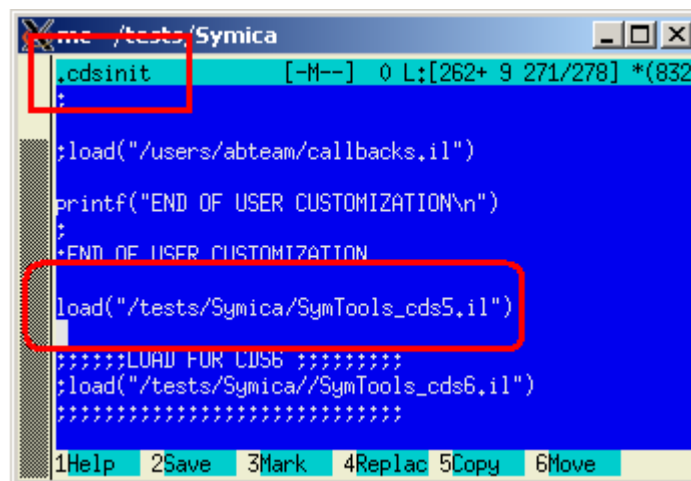

Fig.2.1.
1. By loading from Cadence CIW (fig.2.1).